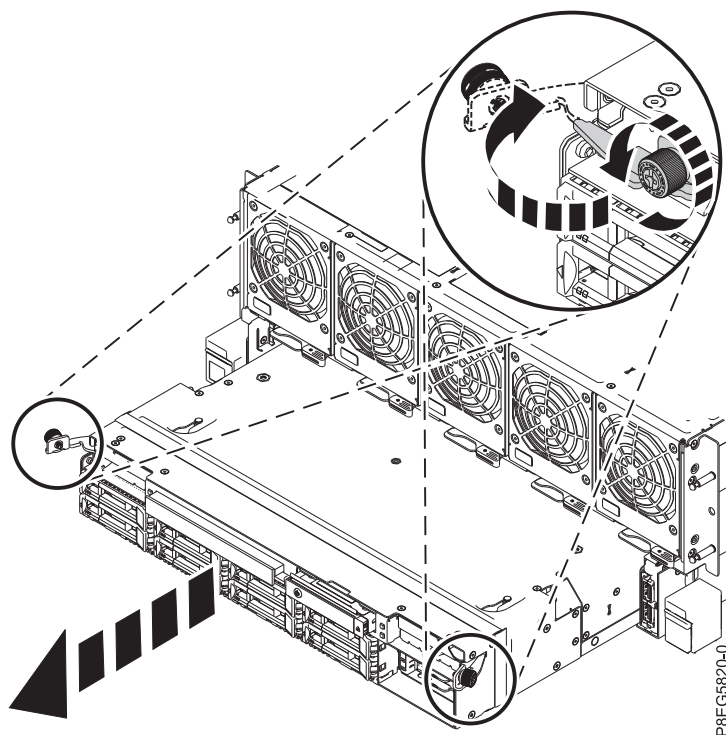

Figure 10. Removing the RAID assembly from the system
2. Turn the thumbscrews on the RAID assembly to loosen them, as shown in Figure 10.